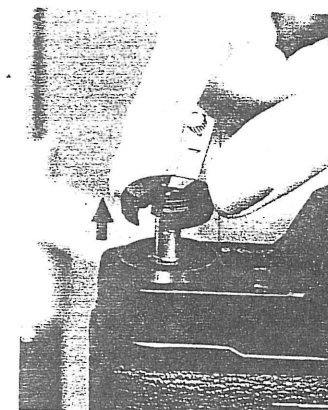

Fig. 18
1. Pull the rewind crank all the way up. (Fig. 18)